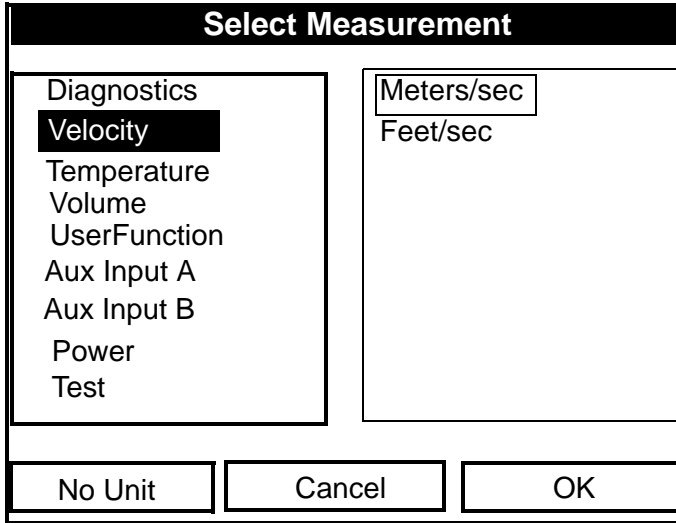

Figure 30: Data Source Selection Window
2. The next prompt asks you to select the analog output type from a list of choices, as shown in Figure 30 below.
- a. Press [ENTER] to open the data source selection window, shown in Figure 30 on page 55.
- e. Press [F3] (OK) to confirm your selection.